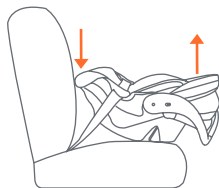
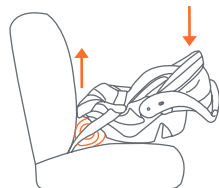

Fig. 49-2
Fig. 49-3
- If the Seat Angle Indicator shows **ANY red**, the Safety Seat is either **too upright** or **too reclined**. If the Safety Seat is too reclined adjust the Safety Seat as shown in Fig. 49-2 until the level indicator shows **NO red**. If the Safety Seat is too upright, place a tightly rolled towel, or car seat noodle, under the foot end of the Safety Seat until the level indicator shows **NO red**. (Fig. 49-3) Re-tighten the vehicle seat belt as instructed in section **Securing the Safety Seat or Base in the Vehicle**.